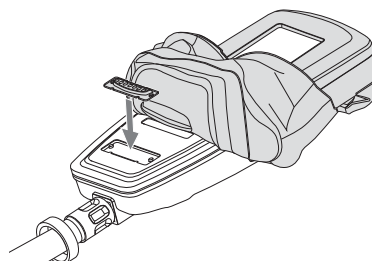

Fig. 53 Fitting the LED protective cover
10. Fit the protective cover over the LED panel (Fig. 53).
Fold the rubber cover fully over the UI module while holding the LED panel in place. Ensure that the cover is orientated as shown, with the notch towards the bottom of the screen and the part number facing upwards (Fig. 53).